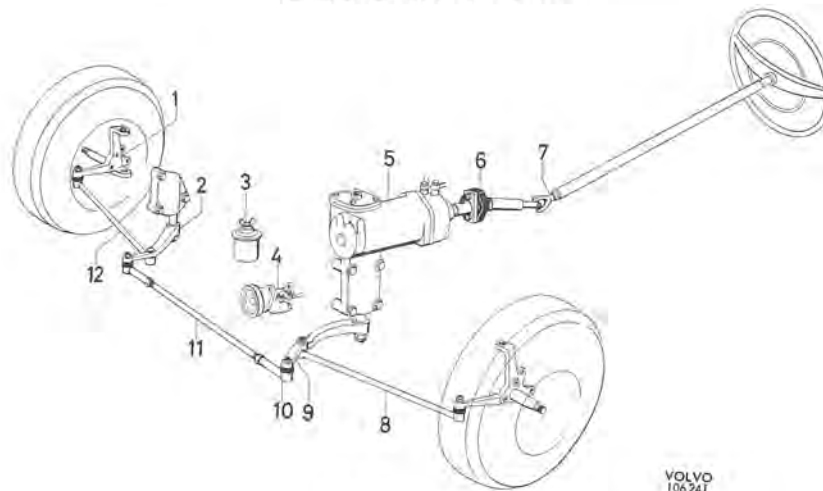

Fig. 6-33. Steering gear
The design of the steering gear is shown in Fig. 6-33. Steering wheel movement is transmitted to the wheels via the steering column (7), the steering housing (5), the pitman arm (9), the tie rod (11), the steering rods (8 and 12) and the steering knuckles (1). Steering power is boosted by the power mechanism.
The ball joints of the steering rod are plastic-lined, and this makes maintenance lubrication unnecessary. The tie rod (11, Fig. 6-33) has replaceable ball joints (tie-rod ends) while the ball joints of the steering rods (8 and 12) are made in one piece with the rod.